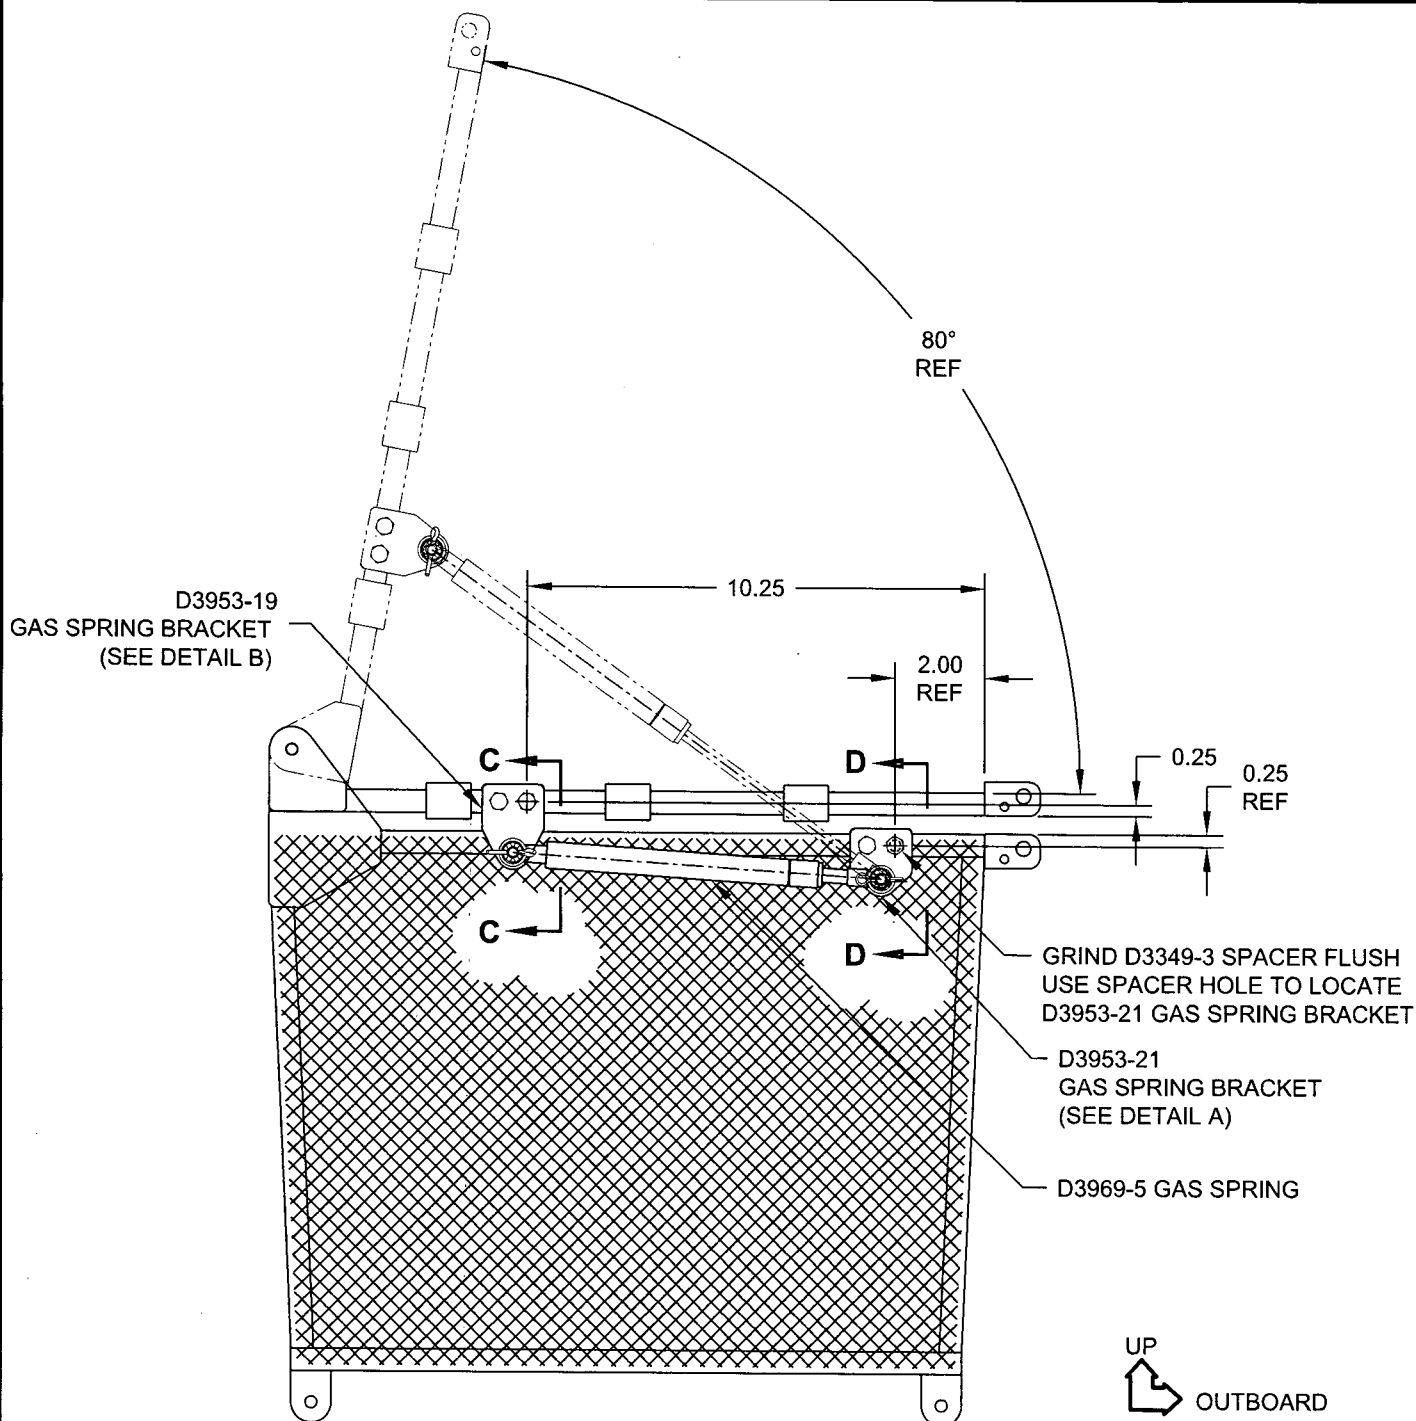

FIGURE 1
- 2) GRIND FLUSH THE D3349-3 SPACER BUSHING ON THE BASKET'S BASE AS SHOWN IN FIGURE 1 (IT IS PERMISSIBLE TO ALSO GRIND THE LID SPACER FLUSH). TOUCH UP PAINT PER ICA-D350-721 REV. 2.
- 3) LOCATE THE D3953-21 GAS SPRING BRACKET ONTO THE BASKET BASE USING THE D3349-3 SPACER FOR THE OUTBOARD HOLE LOCATION, AS SHOWN IN FIGURE 1. TRIM STEEL MESH LOCALLY AS REQUIRED. TOUCH UP PAINT PER ICA-D350-721 REV. 2. TRANSFER MARK AND DRILL 1X Ø0.194 HOLES THRU THE BASKET'S SQUARE TUBE STRUCTURE AS SHOWN IN DETAIL A. INSTALL THE D3953-21 GAS SPRING BRACKET & D3953-17 GAS SPRING SPACER USING 2X AN3C11A BOLTS, 4X NAS1149C0332R WASHER & 2X MS21043-3 NUT AS SHOWN IN SECTION D-D.
- 4) LOCATE THE D3953-19 GAS SPRING BRACKET ONTO THE BASKET LID AS SHOWN IN FIGURE 1. TRANSFER MARK AND DRILL 2X Ø0.194 HOLES THRU THE BASKET'S SQUARE TUBE STRUCTURE AS SHOWN IN DETAIL B. INSTALL THE D3953-19 GAS SPRING BRACKET & (2) D3953-17 GAS SPRING SPACERS USING 2X AN3C15A BOLTS, 4X NAS1149C0332R WASHER & 2X MS21043-3 NUT AS SHOWN IN SECTION C-C.